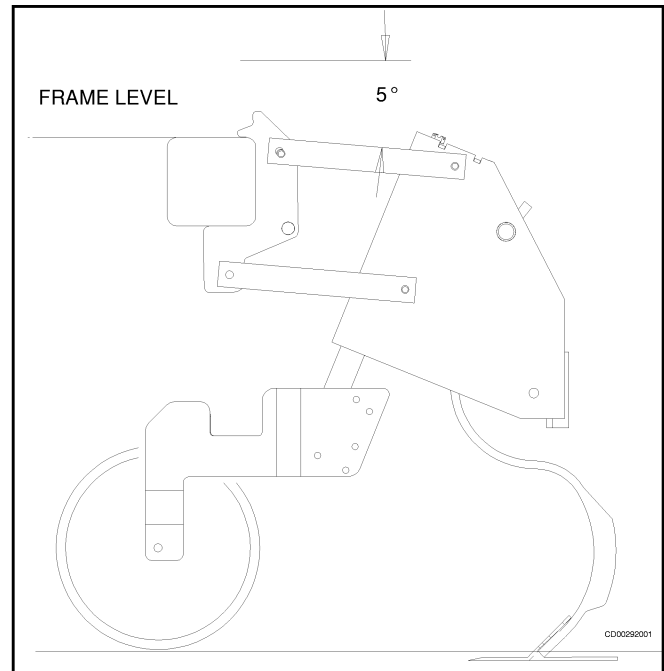

Figure 14 Operating Position
7. After establishing working depth, it may be necessary to reset the 3-point lever stop and adjust the support wheels or to adjust the stops on pull-type wheel cylinders to maintain operating position as shown in Figure 14.